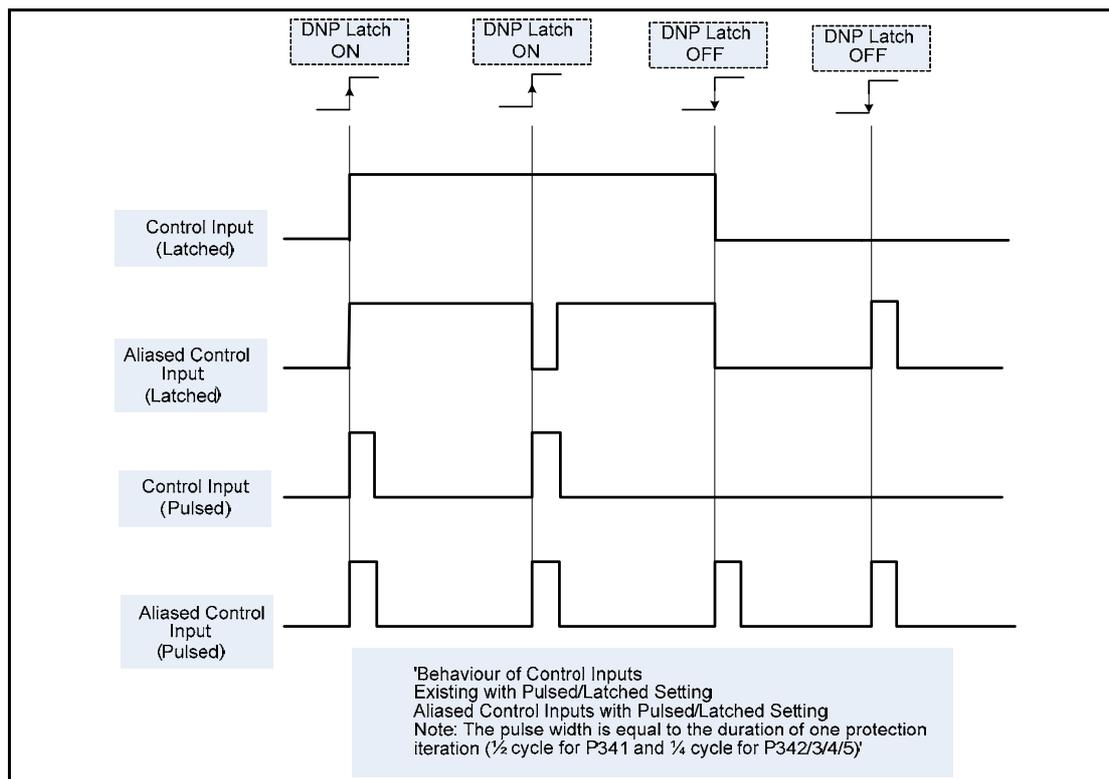

Figure 12: Behavior of control inputs
- Figure 12 shows the behavior when the Control Input is set to Pulsed or Latched.